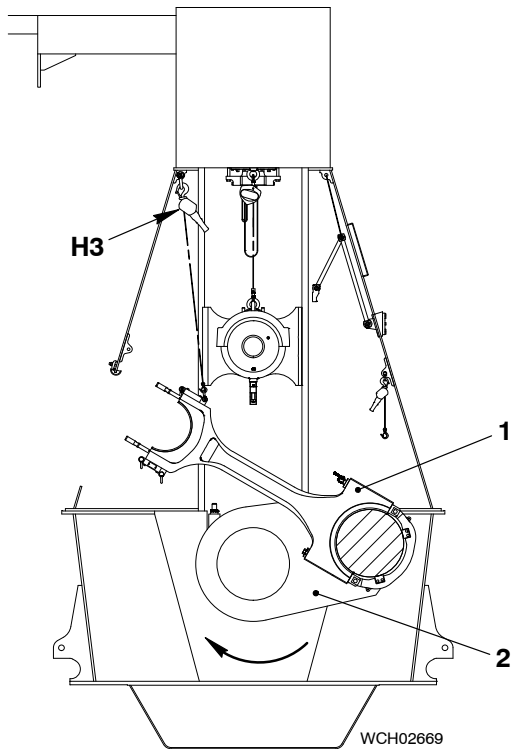

Fig. 15
- 23) Operate the turning gear and the manual ratchet (H3, Fig. 15) to move the connecting rod (1) and crankshaft (2) clockwise to the position shown.